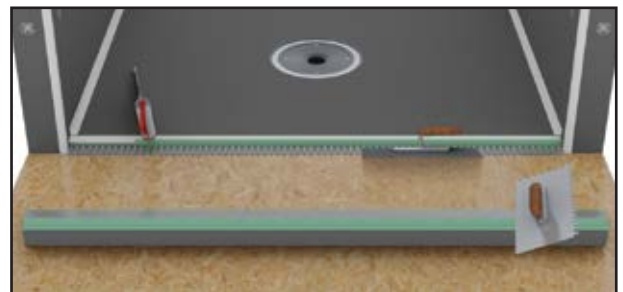

Fig. 15
3. Apply modified thinset to the floor where the Shower Curb sits with a minimum 3/8" trowel, keeping the thinset ½" away from the foam edge of the Shower Pan. Using the flat side of the trowel, coat the exposed foam on the bottom of the Shower Curb with thinset (Fig. 15).
4. Apply a ½" continuous bead of Joint Sealant to the Shower Pan notch and on the lower vertical Shower Pan perimeter surface (Fig. 15).